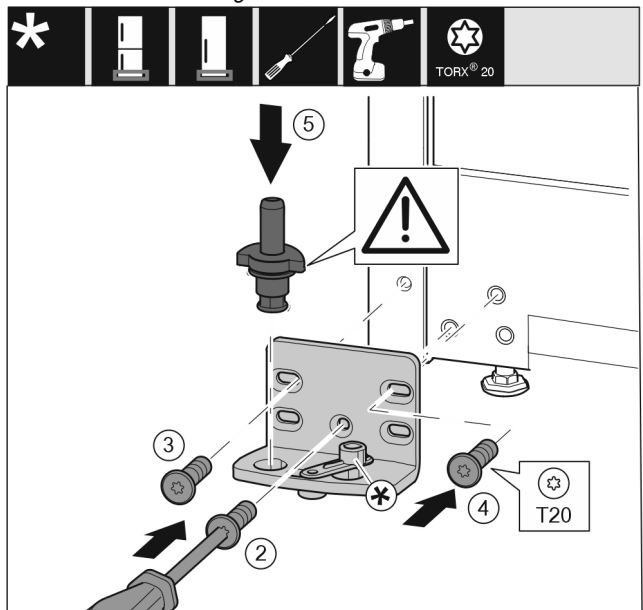

Fig. 36
- ▶ Place the bearing bracket on the other side and screw it in using the T20 screwdriver. Start with screw 2 at the bottom in the middle. Fig. 36 (2)
- ▶ Screw in screws 3 and 4. Fig. 36 (3,4)
- ▶ Insert the bearing pin completely. Make sure that the latching lug is pointing to the rear. Fig. 36 (5)
- ▶ Place the bearing bracket on the other side and screw it in using the T20 screwdriver. Start with screw 2 at the bottom in the middle. (2)
- ▶ Rotate the soft stop connection 180°. Screw it on to the other side of the bearing bracket with a T20 screwdriver. (5)
- ▶ Insert the bearing pin completely. Make sure that the latching lug is pointing to the rear. (6)